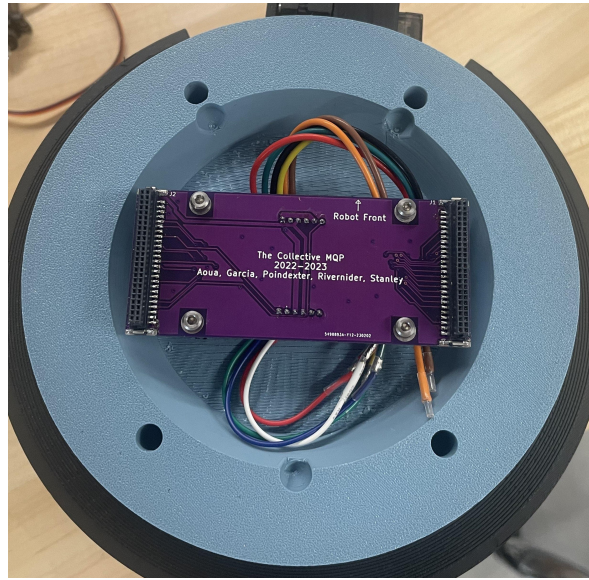

Figure 2: Front indicator mark on the custom PCB
2. Line up the robot front symbol on the bottom of the PCB, as shown in Figure 2, to point towards the camera on the Khepera IV.